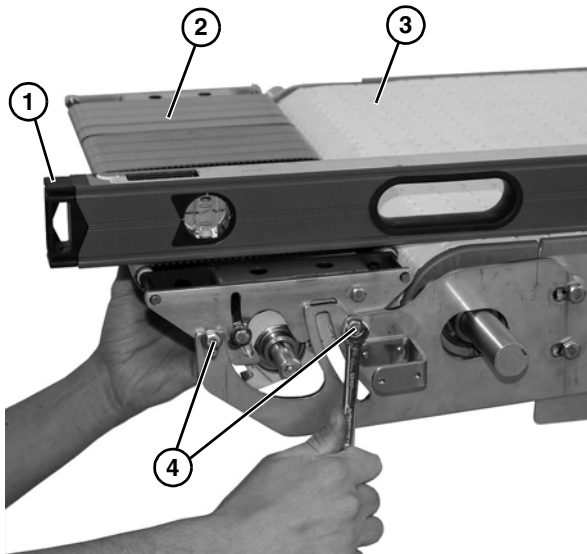

Figure 42
1. To adjust height, place level (**Figure 42, item 1**) or straight edge to level power transfer assembly (**Figure 42, item 2**) with conveyor belt (**Figure 42, item 3**). Tighten two bolts (**Figure 42, item 4**) to secure position.